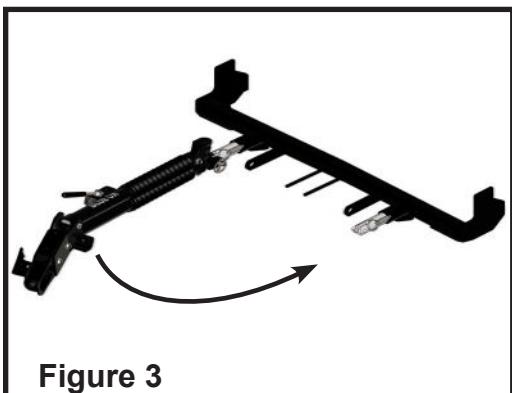

Figure 3
4. Swing the coupler head towards the driver side attachment tab of the baseplate (Figure 3).